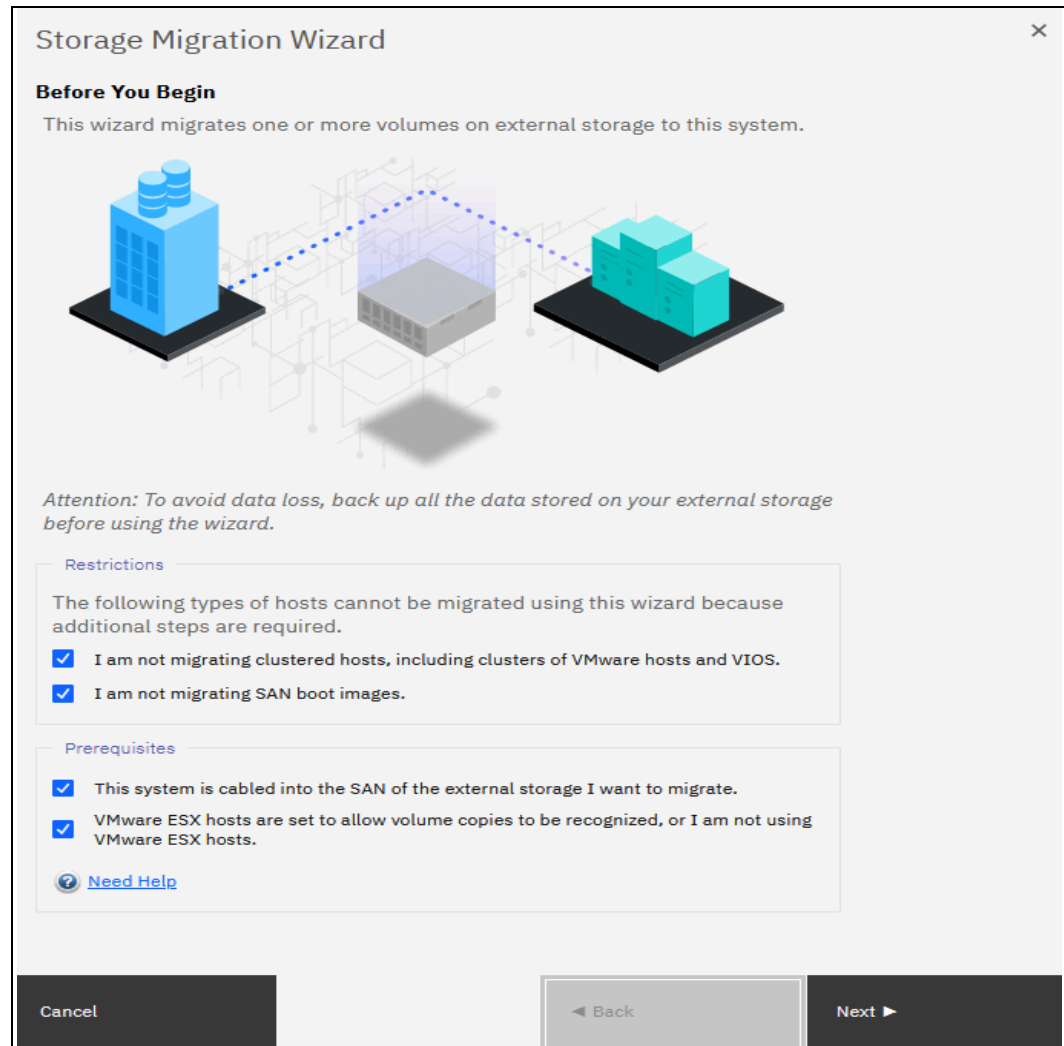

Figure 8-4 Restrictions and prerequisites confirmation
4. When the wizard starts, you are prompted to verify the restrictions and prerequisites that are listed in Figure 8-4.
If all restrictions are satisfied and prerequisites are met, select all of the options and click **Next**, as shown in Figure 8-4 on page 565.